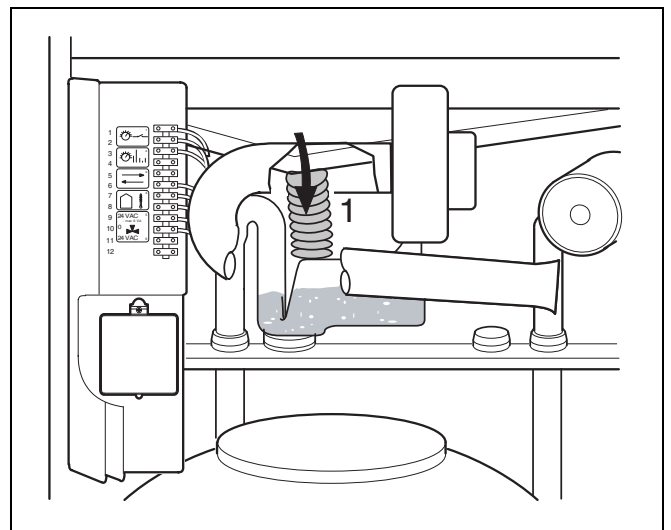

fig. 28 Filling the syphon with water
- Pull the hose from the condensate plate (fig. 28, item 1).